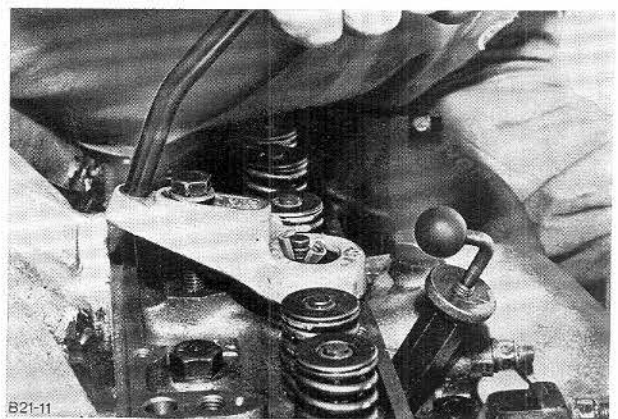

Fig. 90. Remove collets.
5. Press valve spring down, remove collets, Fig. 90, and release pressure on spring. Remove valve spring retainer, valve spring and valve stem seal.